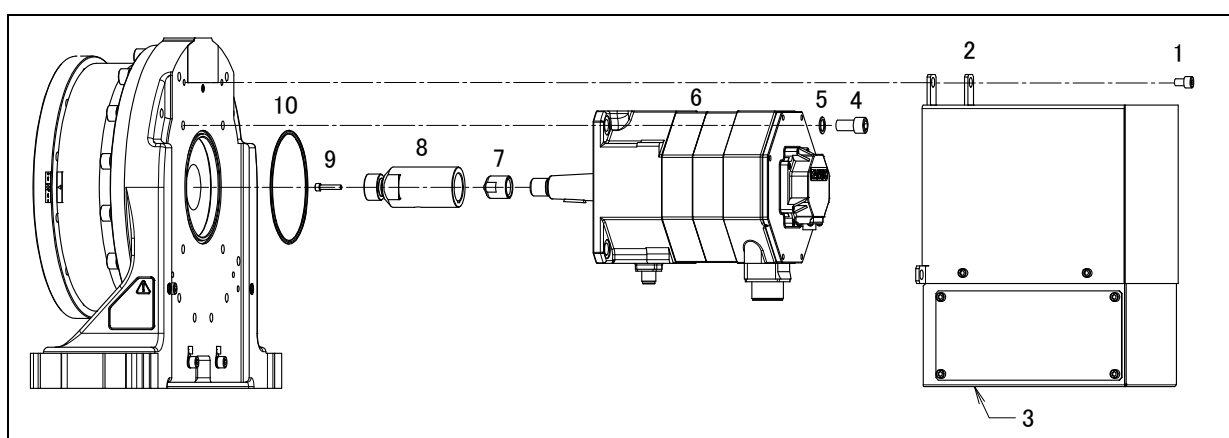

Fig. 6.1.3 Replacing the motor (1000kg/1500kg payload (Compact type))
- 3 Remove the bolts (1) and remove the motor cover (2). (When the HARTING connector option or motor cover options is specified.)
- 5 Remove the bolts (4), washers (5), and remove the motor (6).
- 6 Attach the gear (8) to a new motor, and reverse the removal steps to mount the motor. Replace the O-rings (10) with new ones, and put the new O-rings in place. See Table below the Fig. 6.1.3 for the tightening torque and LOCTITE application.